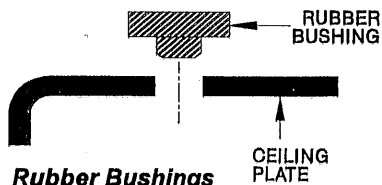

Figure 4. Rubber Bushings
A. Install the (3) rubber bushings into the top of the ceiling plate by inserting small side of rubber bushing into the three round holes in the ceiling plate. See Figure 4.